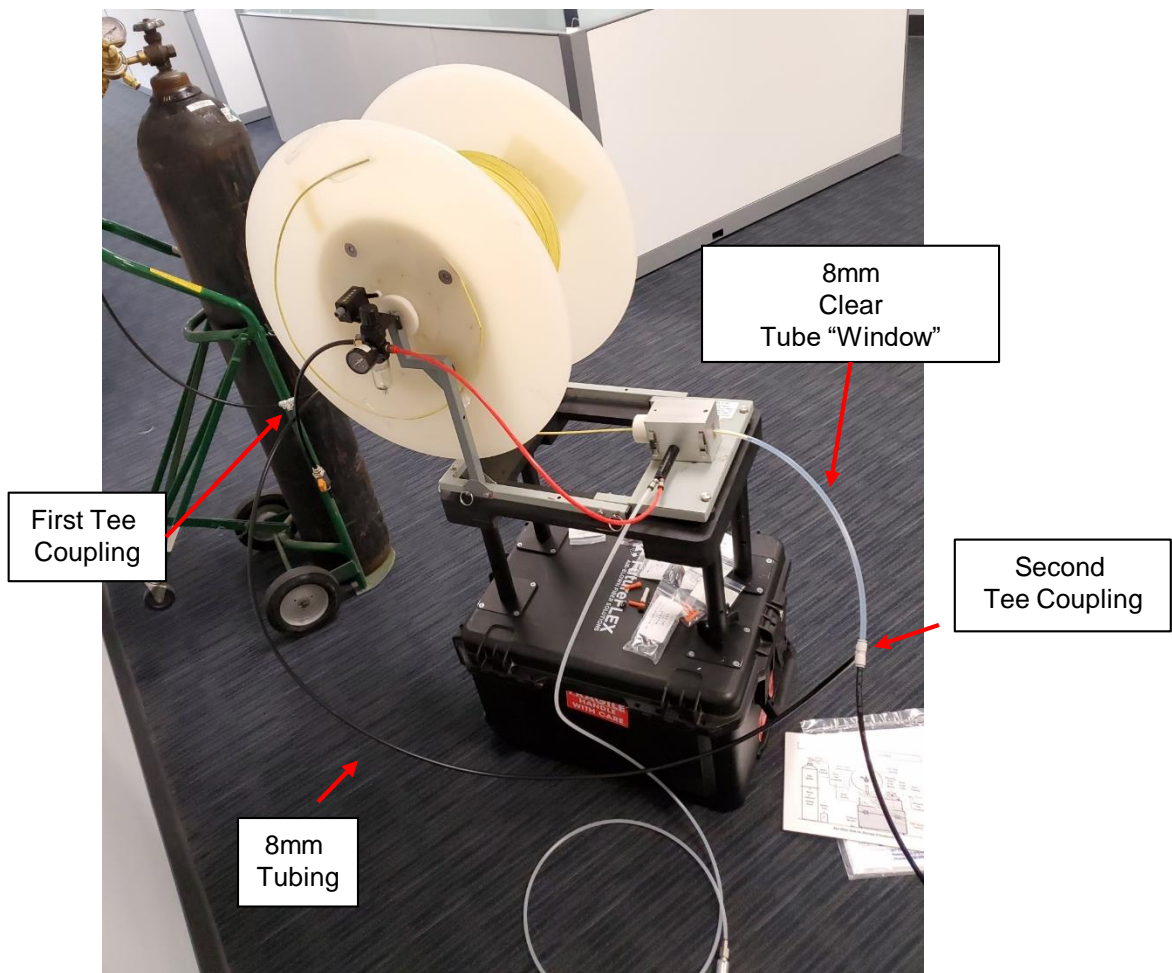

Figure 17
8.8 Push-fit Installer-provided length of 8mm tubing between First Tee Coupling and branch leg of “Second” Tee Coupling. (3' - 4' suggested so Second Tee Coupling is about 1-foot in front of Blowing Head.) **See Fig. 17.**
8.9 Push-fit 8mm Clear Tube into one side of Second Tee Coupling. **See Fig. 17.**